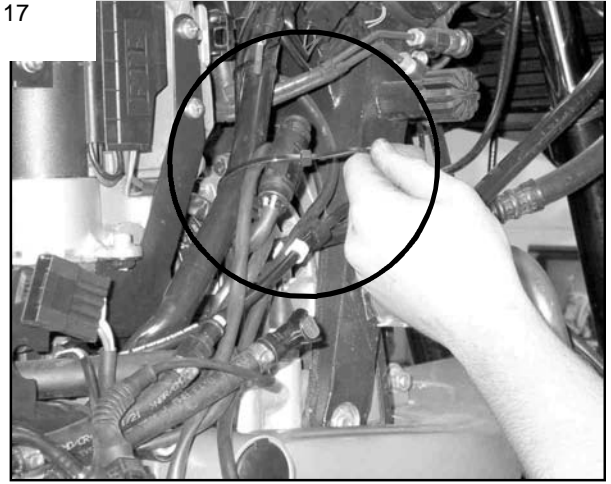

Figure 18
10. Apply a thin film of Sealant to the inside and outside of the inlet tube on the Silencer. **Figure 18.**